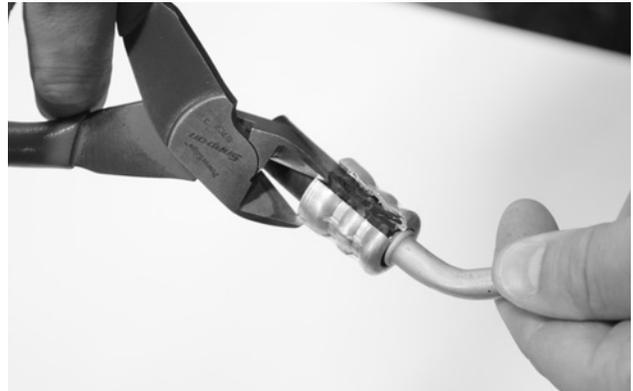
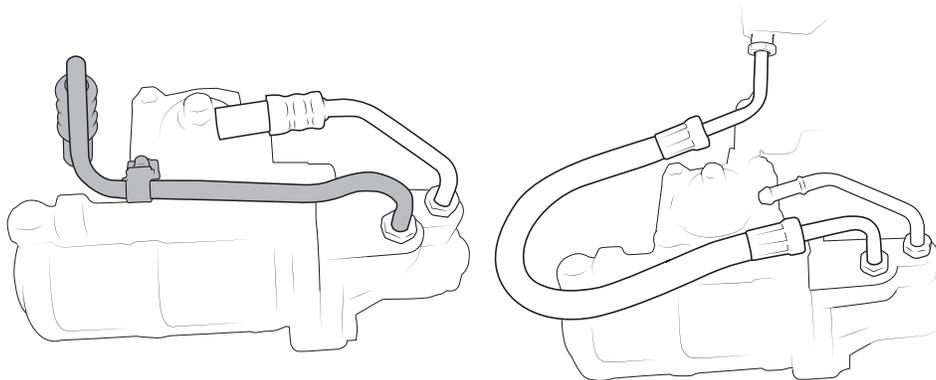

Figure 25: Modifying power steering return line
Figure 26: Before and After.
27. Modify the power steering return line to accept the supplied gear to cooler return line (fig 25) and then install on the steering gear (fig 26).
28. Install the supplied power steering pressure line (fig 26).